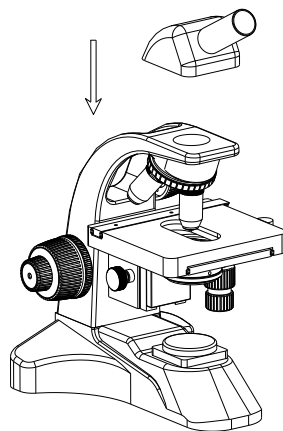

Fig.3
- 6.3 Place gently the viewing head into the Installation hole. Then use one hand to press the viewing head from above while other hand fastens the screw located at the both sides of view head.(Fig.3)